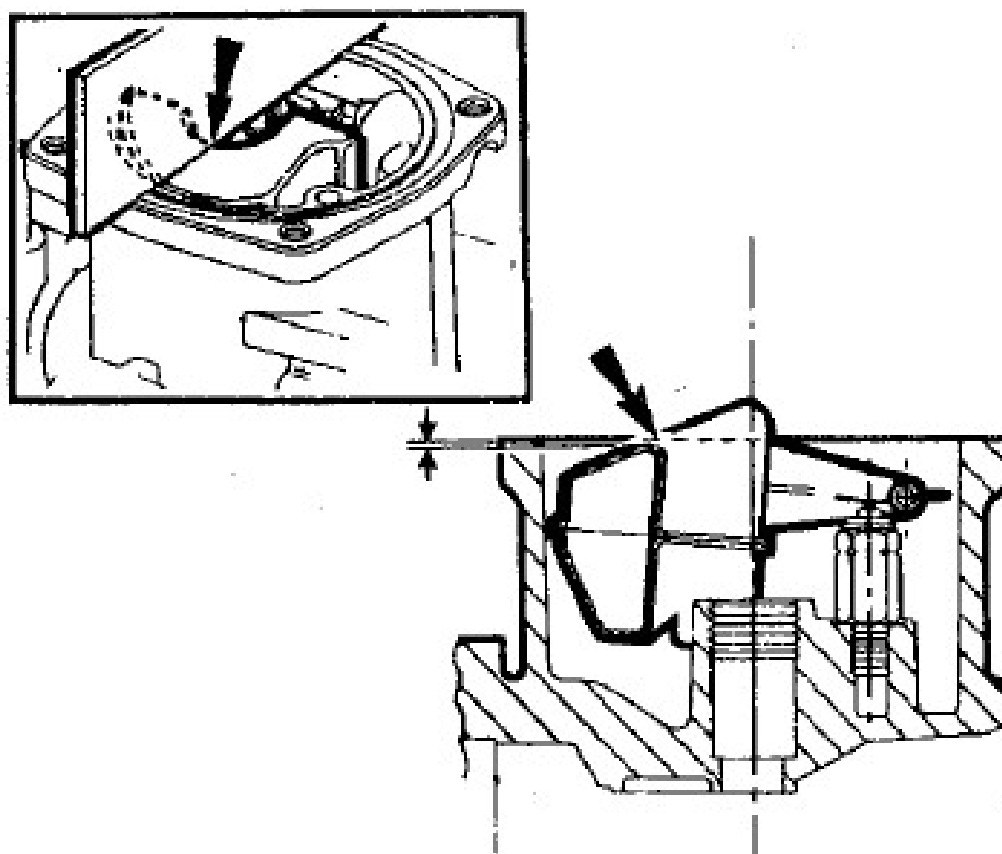

*Fig 91*
**Float and Valve.** After fitting the float and valve, invert the carburetter (Fig.91) so that the needle valve is held in the shut position by the weight of the float only. Check that the point indicated on the float (see illustration) is  $0.04 \pm 0.02$  in ( $1.0 \pm 0.5$  mm) below the level of the float chamber face. Adjust the float position by carefully bending the brass pad. Check that the float pivots correctly about the spindle.